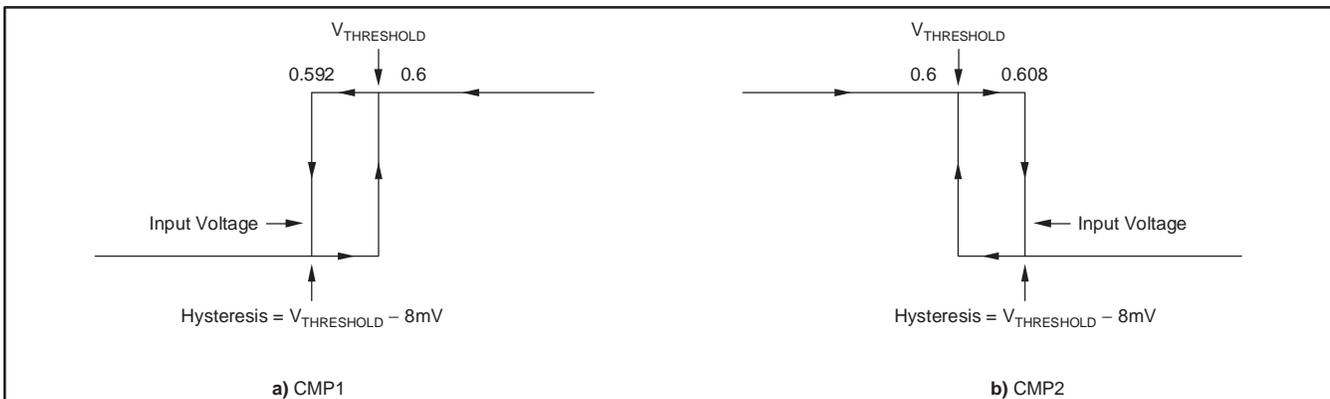

Figure 1. Comparator Hysteresis
(1) Hysteresis refers to the threshold (the threshold specification applies to a rising edge of a noninverting input) of a falling edge on the noninverting input of the comparator. Refer to Figure 1.
(2) Specified by design.
(3) See the *Comparator Maximum Input Voltage Range* section in the Applications Information.
(4) The comparator response time specified is the interval between the input step function and the instant when the output crosses 1.4V.
(6) The Comparator 2 delay applies to both rising and falling edges of the comparator output.